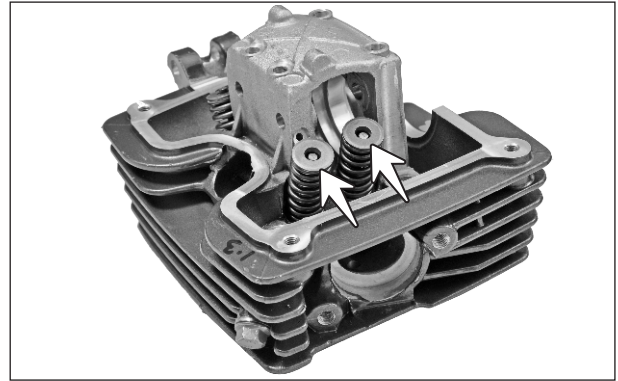

Fig. 3.51
- Remove the retainer valve springs and spring valves. (Fig. 3.51)